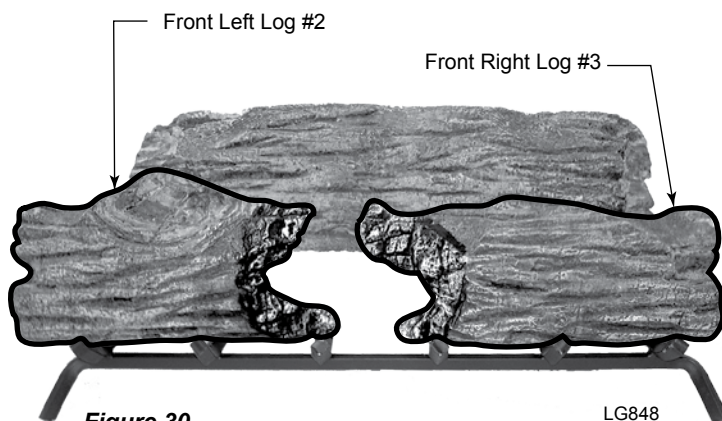

Figure 30 - Place Front Logs
3. Place front left log #2 on the front of the grate and to the left. *Figure 30*
4. Place front right log #3 on the front of the grate and to the right. *Figure 30*